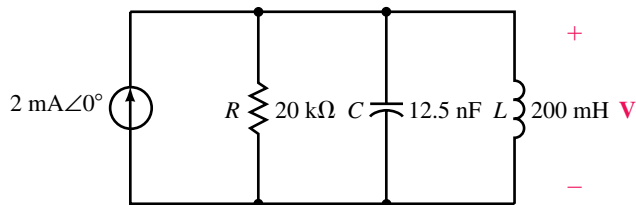

FIGURE 21-65
23. Consider the circuit of Figure 21-65.